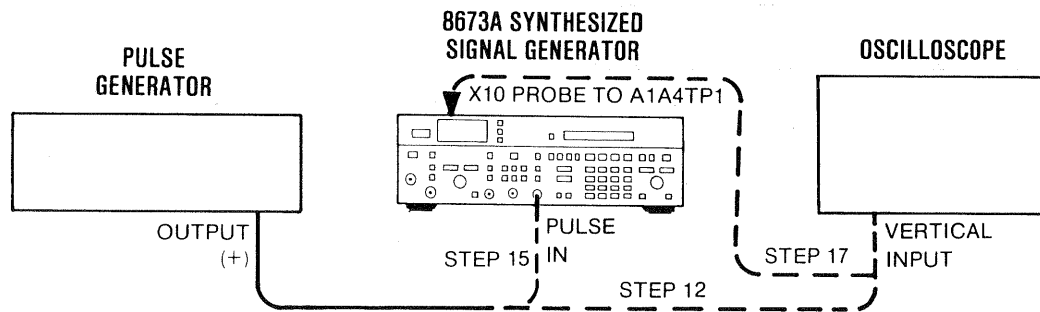

Figure 5-29. Series Pulse Width Test Setup
12. Connect the equipment as shown in Figure 5-29.